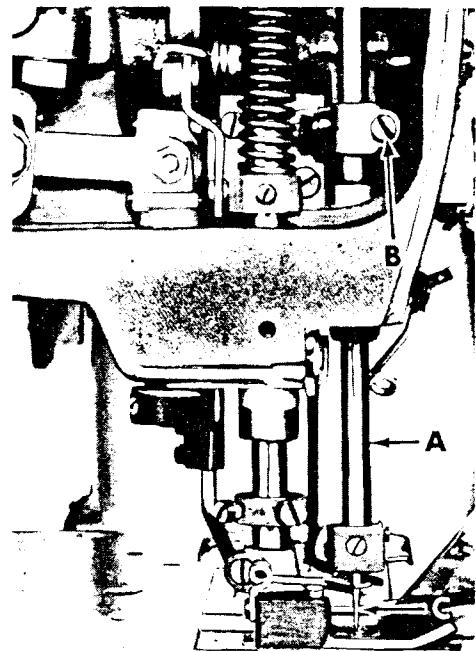
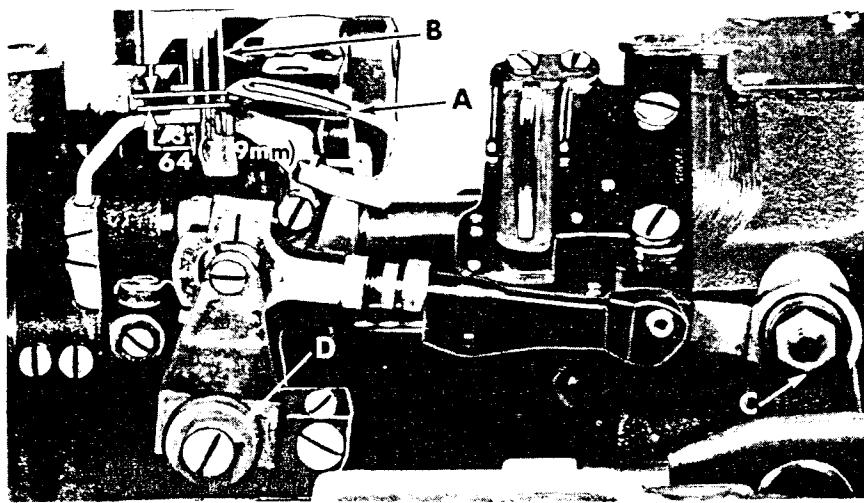
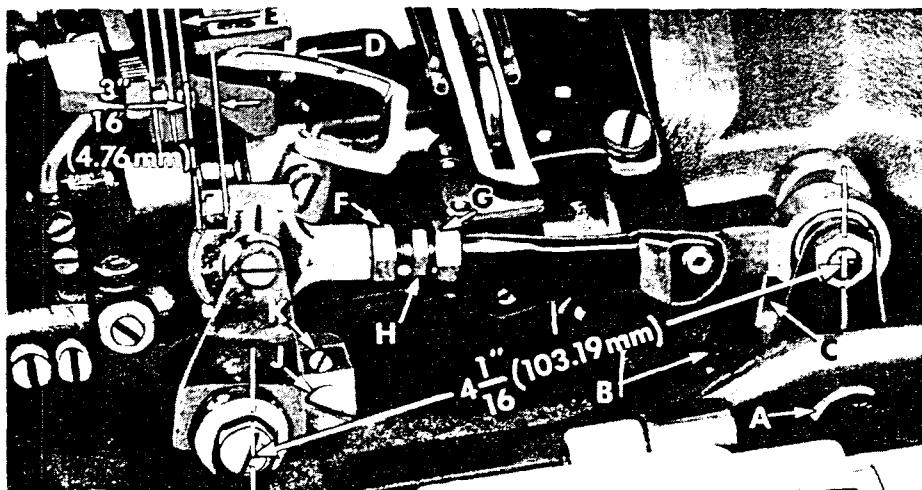

Fig. 4
Fig. 5
Fig. 6
Align the needle bar (A, Fig. 4) and set to height, using the proper test pins and test plate of the right gauge. See chart below.
If test plate and test pins are not available, insert a new set of needles (Type and Size as required) and align the needle bar so the needles center in the needle holes of throat plate. To align needle bar, loosen needle bar clamp screw (B, Fig. 4) and turn bar as required. Tighten clamp screw.
Insert the looper in the looper rocker and turn handwheel in operating direction until the point of the looper (A, Fig. 5), moving to the left is even with the left side of right needle (B). Note the height of the eye of the needle with respect to the looper point, then turn handwheel in the reverse direction until the looper point again moves to the left, and is even with the left side of the right needle.
If the motions synchronize, the height of the eye of the needle with respect to the looper point will be the same. A variation of .005 inch (.127 mm) is allowable. If the distance from the eye of the needle to the point of the looper is greatest when the pulley is turned in the operating direction, move the looper drive shaft synchronizing stud (A, Fig. 6) to the rear. Moving it in the opposite direction acts the reverse.
Moving of the looper drive lever shaft synchronizing stud is accomplished as follows: Loosen the clamp screw (B, Fig. 6) of the looper drive lever (C). To move stud to rear (away from operator), a light tap with a small hammer, directly on the stud, is all that is required. To move stud forward (toward operator), remove the cloth plate, throat plate support, oil reservoir top cover and oil reservoir back cover, then, a light tap on the looper drive lever rocker shaft, toward the operator, is all that is required.
NOTE: Looper drive lever (C, Fig. 6) has an oil seal collar and an "O" ring between it and the bed casting. All end play must be removed from the looper drive lever rocker shaft by compressing the "O" ring until drive lever (C) and the oil seal collar make metal to metal contact with the bed casting. Tighten screw (B).
With the looper at the extreme right end of its travel, check the location of the center line of the right looper connecting rod bearing, using gauge No. 21227 CX. Remove nut (C, Fig. 5) and place hole in gauge over threaded stud. The left end of the gauge should locate against the right side of the looper rocker cone (D). If adjustment is necessary, loosen the clamp screw (B, Fig. 6) and reposition the looper drive lever (C) as required. Tighten clamp screw. If gauge is not available setting can be checked with a scale. The distance between the centerline of the looper rocker cone and the center line of the looper lever stud should be 4 1/16 inch (103.19 mm) (Fig. 6), when looper is at the extreme right end of its travel. Refer to "NOTE" in above paragraph.
Insert a new needle in the right needle seat, type and size as specified. If the looper gauge is $3/16$ inch (4.76 mm), for example, set the looper (D, Fig. 6) so the distance from the center of the right needle (E) to the point of the looper is $3/16$ inch (4.76 mm) when the looper is at its farthest position to the right. Looper gauge No. 21225-3/16 can be used advantageously in making this adjustment. Refer to chart below for needle Type, looper gauge setting and looper gauge number for the various styles of machines. If adjustment is required, loosen nut (F) (it has a left hand thread) and nut (G) on connecting rod (H), turn the connecting rod forward or backward to obtain the $3/16$ inch (4.76 mm) dimension. Retighten both nuts, first nut (G) and then nut (F). Make sure the left ball joint is in vertical position and does not bind after adjustment.
If adjustment is necessary, loosen lock screw (J, Fig. 6) and turn stop screw (K) as required. Turning stop screw clockwise sets the looper to the rear and turning it counterclockwise acts the reverse. Holding looper to the front while making this adjustment may prove helpful. Tighten lock screw (J) when setting is obtained and recheck the adjustment.
The height of the needle (C, Fig. 4) is correct when the top of its eye is $3/64$ inch (1.19 mm) (Fig. 5) below the underside of the looper, with the looper point flush with the left side of the needle. If adjustment is necessary, loosen screw (B, Fig. 4) and move needle bar (A) up or down as required and retighten screw. Care should be taken not to disturb the alignment of the needle bar when moving the needle bar either up or down.